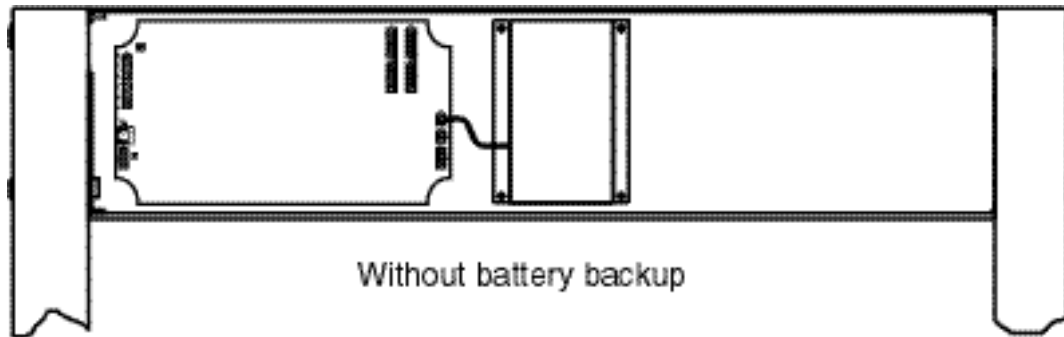

Figure 11-8
6. Disconnect the power supply module connector from the controller circuit board. (See Figure 11-8.)